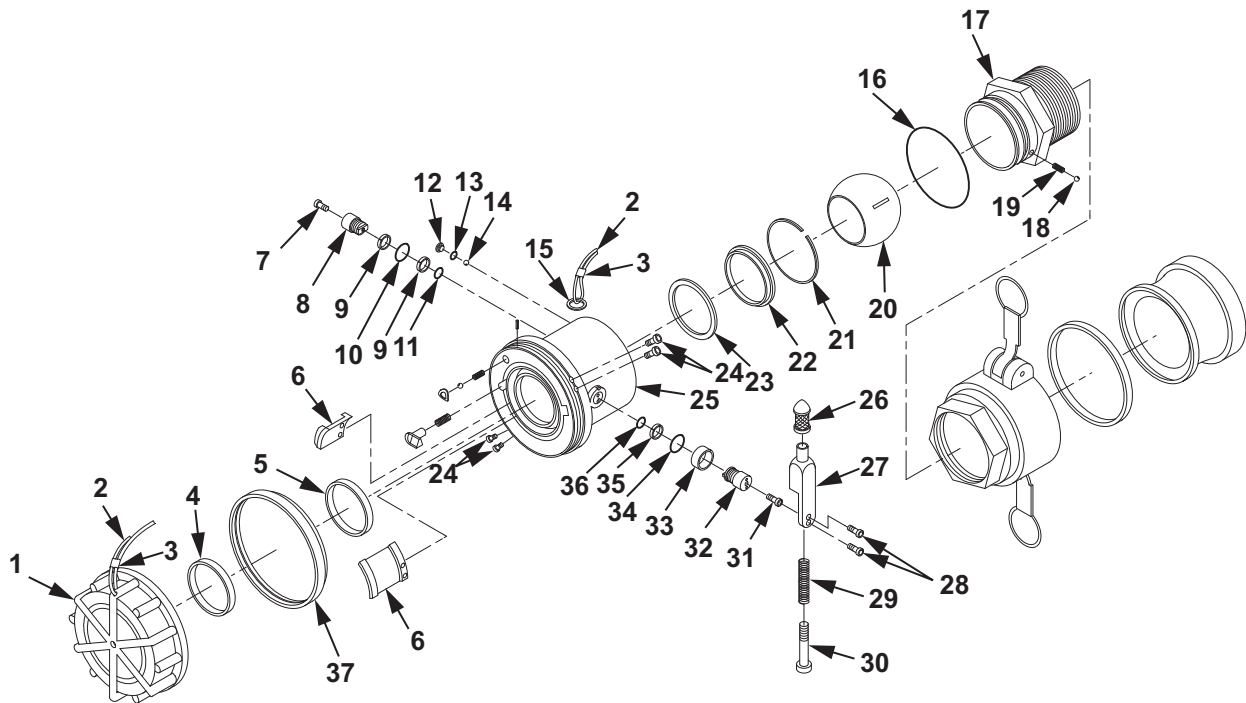

Figure 3. 4 In. Female Camlock X 3 In. Valved Dry-Break Adapter Testing.
If it was necessary to replace bumper (Figure 3, Item 37) or lugs (Figure 3, Item 6), perform the following six installation steps.
9. Position lugs (Figure 3, Item 6) in coupling (Figure 3, Item 25).
10. Install screws (Figure 3, Item 24) into coupling (Figure 3, Item 25).
11. Install new seal (Figure 3, Item 5) into coupling (Figure 3, Item 25) interface.
12. Using torque wrench and screwdriver bit, torque screws (Figure 3, Item 24) to 6 in. lb (0.70 N•m).
13. Position bumper (Figure 3, Item 37) with thin lip seal end facing away from coupling (Figure 3, Item 25).
14. Install bumper (Figure 3, Item 37) on coupling (Figure 3, Item 25).
If it was necessary to replace dust cap (Figure 3, Item 1), perform the following five installation steps.
15. Install new seal (Figure 3, Item 4) on dust cap (Figure 3, Item 1).
16. Loop one end of 18 in. cable (Figure 3, Item 2) through sleeve (Figure 3, Item 3), dust cap (Figure 3, Item 1) and back through sleeve (Figure 3, Item 3).
17. Using pliers, crimp sleeve (Figure 3, Item 3).
18. Loop other end of 18 in. cable (Figure 3, Item 2) through sleeve (Figure 3, Item 3), split ring (Figure 3, Item 15) and back through sleeve (Figure 3, Item 3).
19. Using pliers, crimp sleeve (Figure 3, Item 3).
20. Install new seal (Figure 3, Item 23) in coupling (Figure 3, Item 25).
21. Install seal retainer (Figure 3, Item 22) in coupling (Figure 3, Item 25).
22. Install retaining ring (Figure 3, Item 21) in coupling (Figure 3, Item 25).
23. Install new bushings (Figure 3, Item 9) on lower shaft (Figure 3, Item 8).
24. Lightly lubricate new O-rings (Figure 3, Item 10, 11) with petrolatum and install new O-rings (Figure 3, Item 10, 11) on lower shaft (Figure 3, Item 8).
25. Position ball valve (Figure 3, Item 20) in the open position and install inside coupling (Figure 3, Item 25).
26. Install lower shaft (Figure 3, Item 8) inside coupling (Figure 3, Item 25).
27. Install screw (Figure 3, Item 7) on lower shaft (Figure 3, Item 8).
28. Install new bushings (Figure 3, Item 33, 35) on upper shaft (Figure 3, Item 32).
29. Lightly lubricate new O-rings (Figure 3, Item 34, 36) with petrolatum and install new O-rings (Figure 3, Item 34, 36) on upper shaft (Figure 3, Item 32).
30. Install upper shaft (Figure 3, Item 32) in coupling (Figure 3, Item 25).
31. Install screw (Figure 3, Item 31) on upper shaft (Figure 3, Item 32).
If it was necessary to disassemble control arm (Figure 3, Item 27), perform the following assembly steps.
32. Place spring (Figure 3, Item 29) on screw (Figure 3, Item 30).
33. Install screw (Figure 3, Item 30) into control arm (Figure 3, Item 27).
34. Install knob (Figure 3, Item 26) on control arm (Figure 3, Item 27).
35. Tighten screw (Figure 3, Item 30) hand tight.